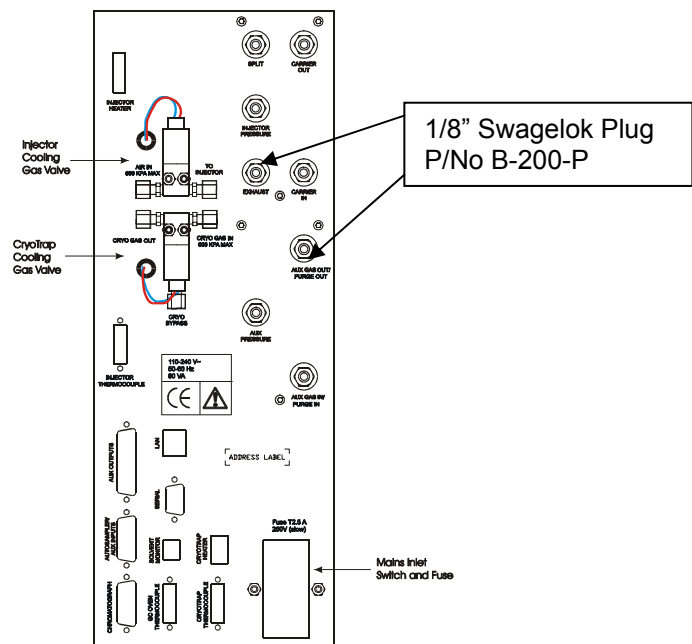

Figure 2.
- Plug off the EXHAUST and AUX GAS OUT/PURGE OUT with a Swagelok Plug (Figure 2.).